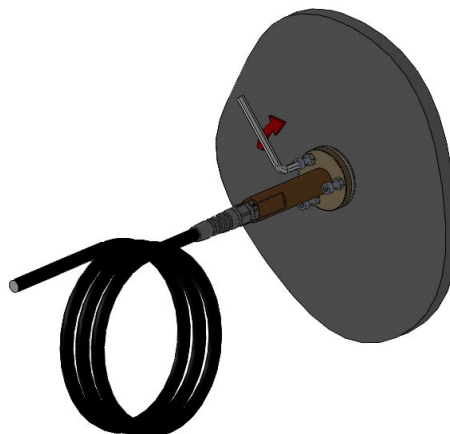

Fig.6.4
4. Tighten the locking bolts using the allen tool in a clockwise motion, adjust to only hand tight. Once you are satisfied that the unit is fully embedded into the hull, you will notice that sealant has squeezed out from around the perimeter of the light. Using a thinner or cleaner, apply to work rag and wipe off excess sealant to leave a clean seal. If you do not see sealant squeeze out from the body, you have not used enough sealant or tightened the unit enough to the hull. Carefully examine the installation to make sure the seal you have installed on the unit is fully water-tight. If in doubt, remove light, re-apply sealant and re-install. (Fig.6.4)